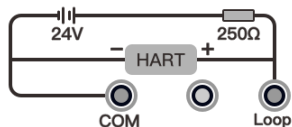

Figure 9 HART-External power and external resistance
3) The connection method of external power supply and external resistance is shown in Figure 9;